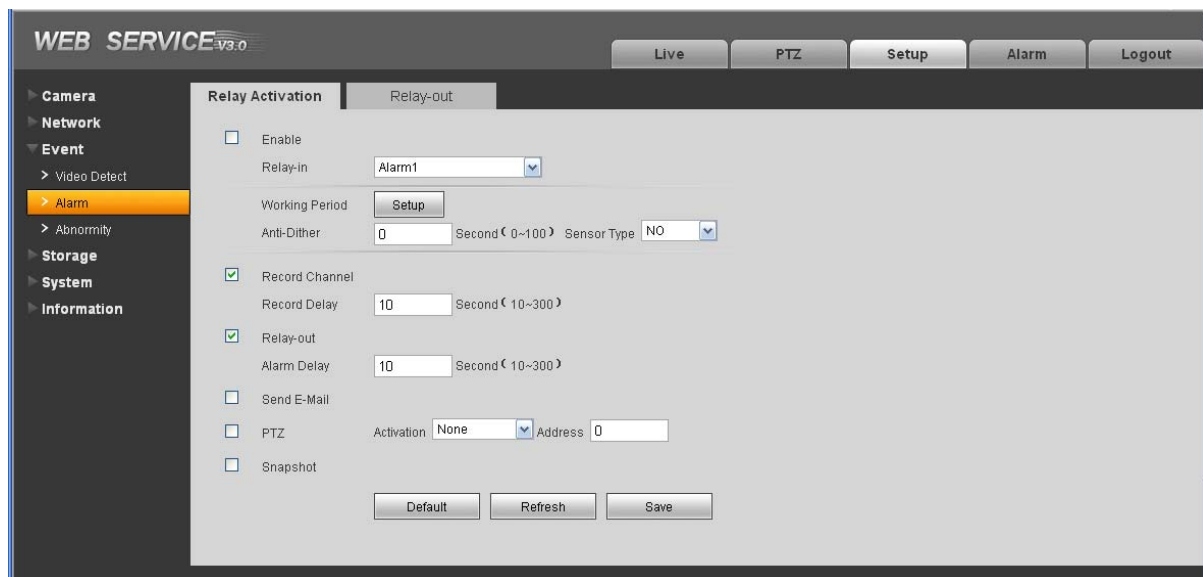

Figure 1-4
The alarm interface is shown as in Figure 1-4. Please follow the steps listed below for local alarm input and output connection.
- 3) Open the Web, go to the Figure 1-4. Please set the alarm input 01 port for the first channel of the I/O cable (No.3 pin). The alarm input 02 is for the 2nd channel of I/O cable (No.4 pin). Then you can select the corresponding type (NO/NC.)